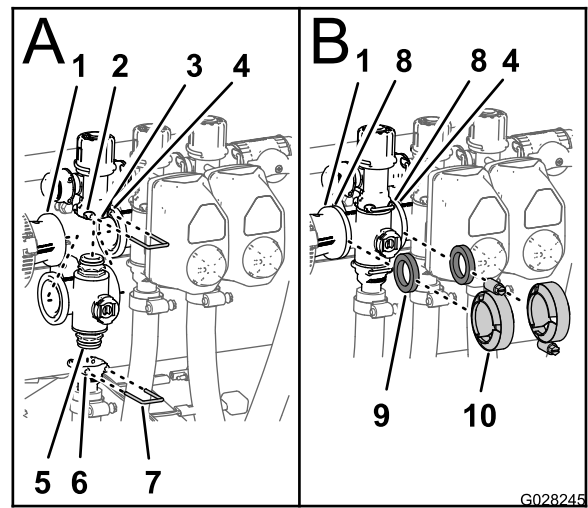

Figure 104
1. Insert the upper endcap fitting of the manifold valve into the bypass fitting (A of Figure 104).
2. Secure the endcap fitting to the bypass fitting by inserting a retainer into the socket of the bypass fitting (A of Figure 104).
3. Assemble the outlet fitting onto the lower endcap fitting of the manifold valve (A of Figure 104).
4. Secure the endcap fitting to the outlet fitting by inserting a retainer into the socket of the outlet fitting (A of Figure 104).
5. Align a gasket between the flanges of the reducer coupling and the section valve manifold (B of Figure 104).
6. Assemble the reducer coupling, gasket, and section valve manifold with a clamp and tighten by hand (B of Figure 104).
7. If installing the 2 left most section valves, align a gasket between the flanges of the 2 adjacent section valve manifolds (B of Figure 104).
8. Assemble the and 2 adjacent section valve manifolds and gasket with a clamp and tighten by hand (B of Figure 104).